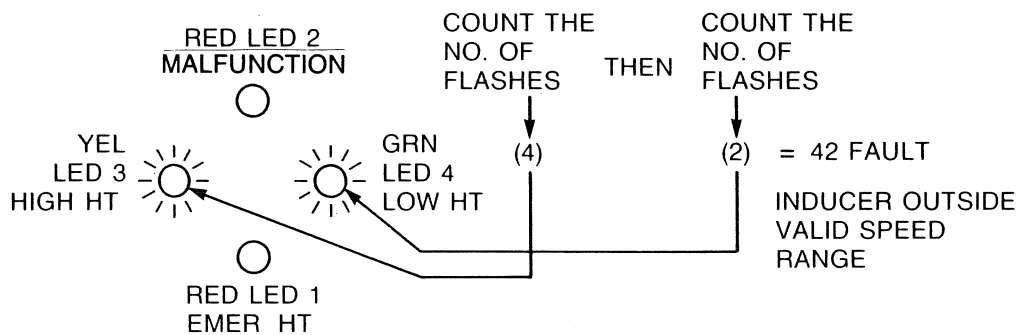

Fig. 1—Fault Code LED's
6. Alternate flashing of green and yellow LED's indicates fault. (See Fig. 1.)